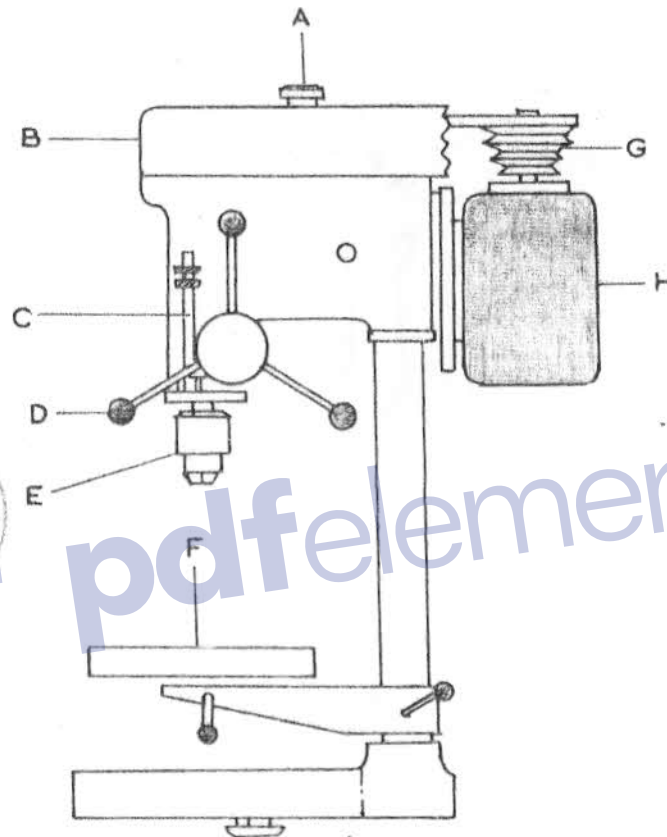

Fig. 1: Bench Drilling Machine
- (b) Figure 1 shows a diagram of a bench drilling machine. Name the parts labelled A to H.